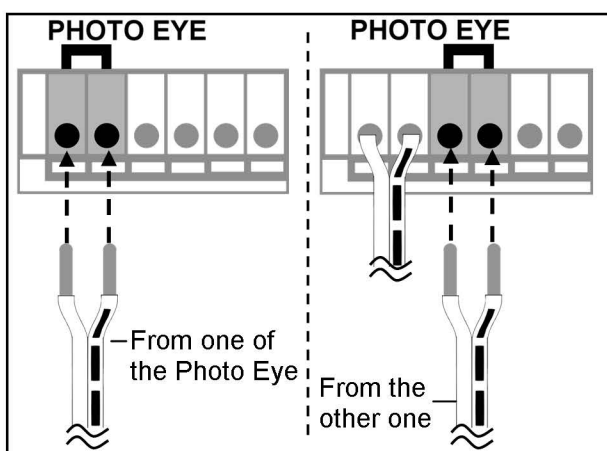

Fig. 3
1. Connect a pair of wires from either one of the Photo Eyes to a pair of "PHOTO EYE" terminals on the rear of the Opener as shown in Fig. 3. Refer to **Wiring Instructions** on page 12 for proper connections.